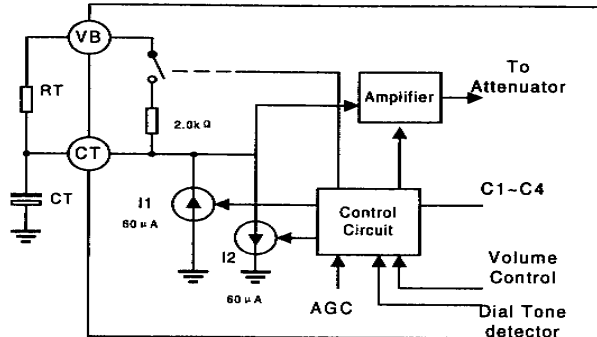

Fig. 5. CT Attenuator control block circuit
4. The circuit will switch to the slow idle mode when: (A) both talkers are quiet( no speech present) or (B) when one talker's speech level is continuously over-ride by noise at the other speaker's location. The time required to switch the circuit between transmit, receive, fast idle, and slow idle is determined in part by the components at the CT pin( pin14), (see the section on switching timers for a more complete explanation of the switching time components A schematic of the CT circuitry is shown in Figure 5, and operates as follows: